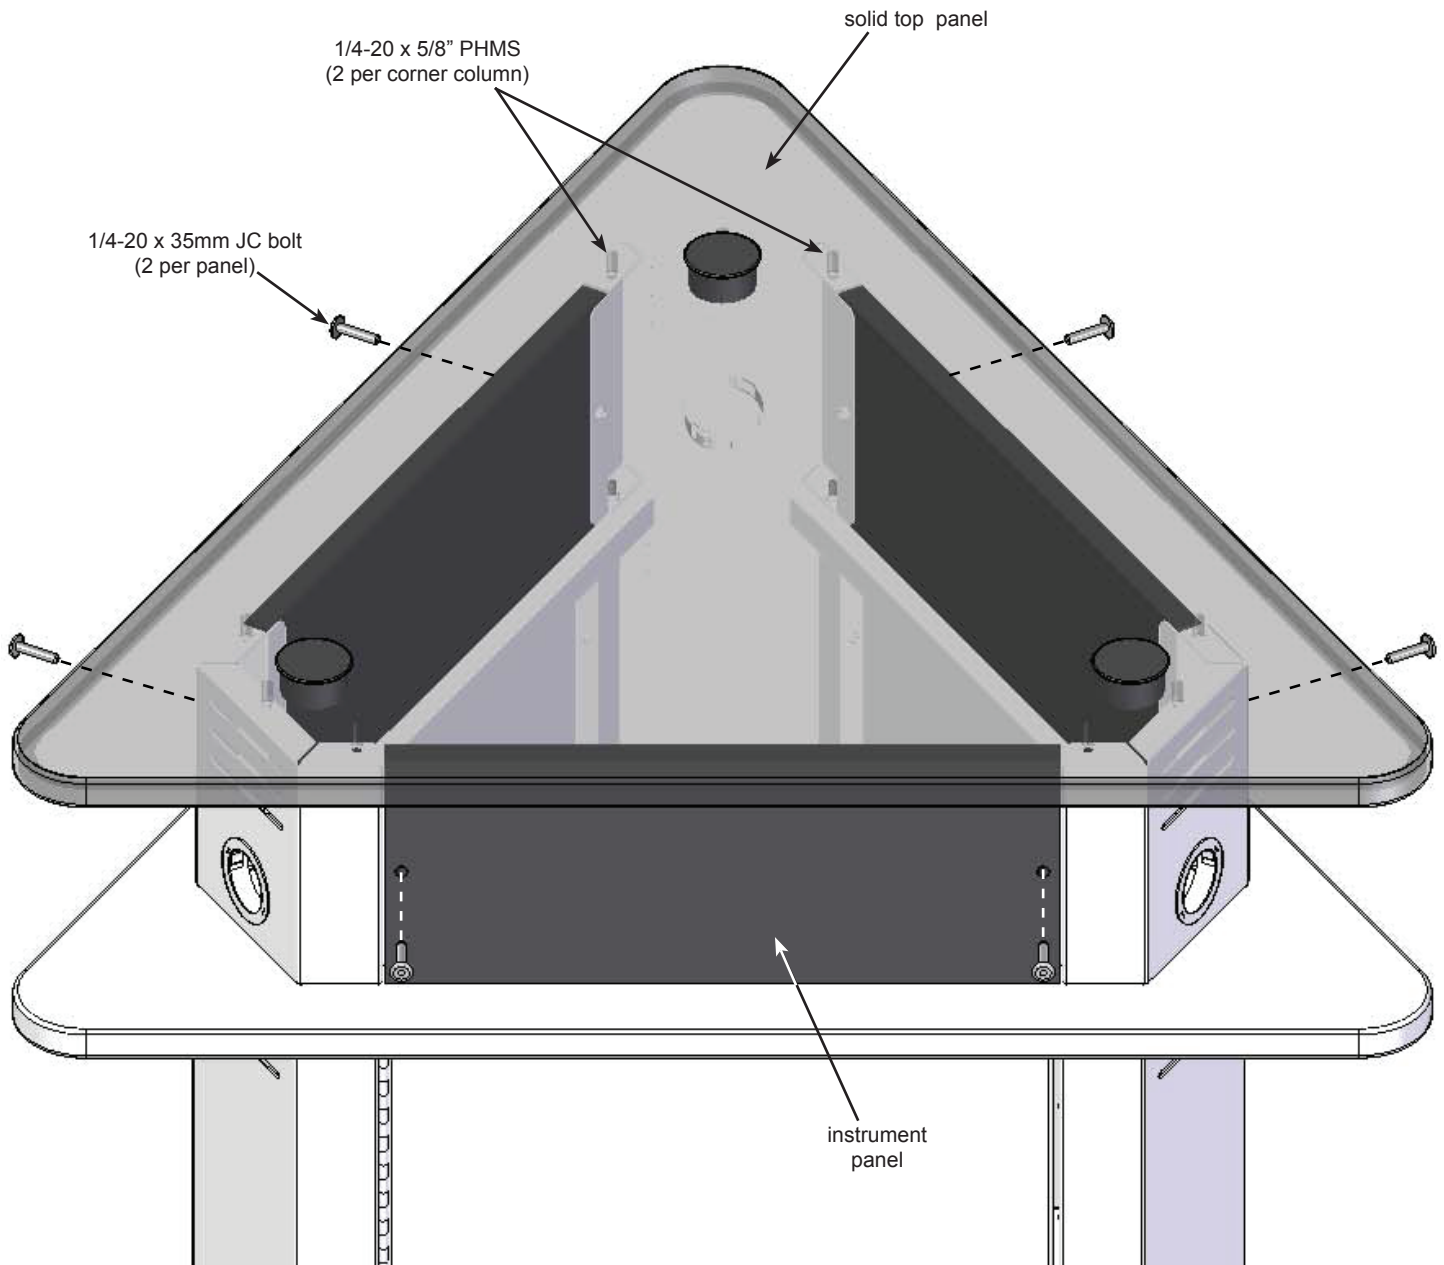

Figure 3B
1. Set the solid top panel onto the corner columns while aligning the mounting holes. **Figure 3B**. Secure each corner column to the solid top with (2) 1/4-20 x 5/8" PHM screws and tighten securely.
2. Attach each instrument panel to the corner columns with (2) 1/4-20 x 35mm JC bolts. Tighten securely.